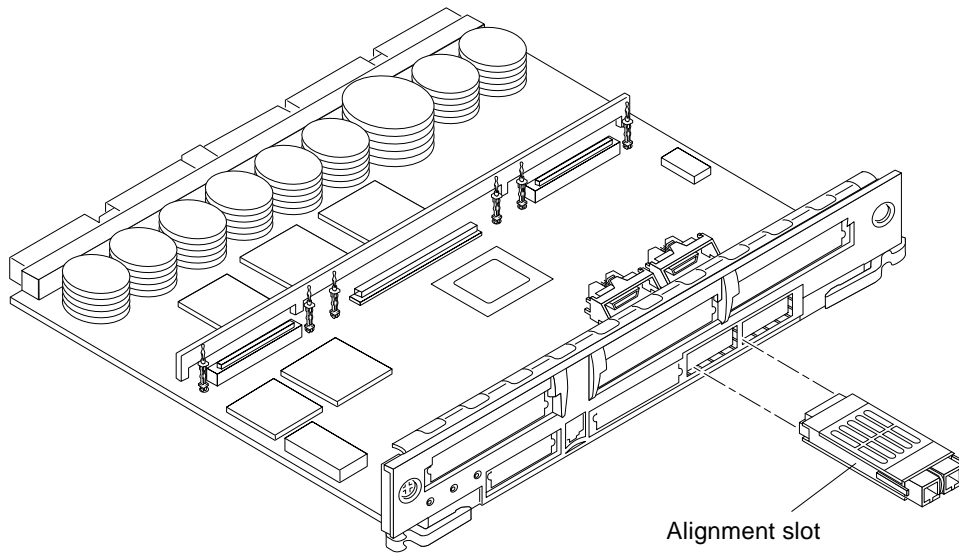

FIGURE 4-25 Removing or Installing a GBIC
2. Remove the GBIC from the I/O+ board by compressing the locking tabs located on either side of the card and pulling straight out from the opening in the I/O+ board panel (FIGURE 4-25).
The alignment slots should be on the bottom of the GBIC (FIGURE 4-25).